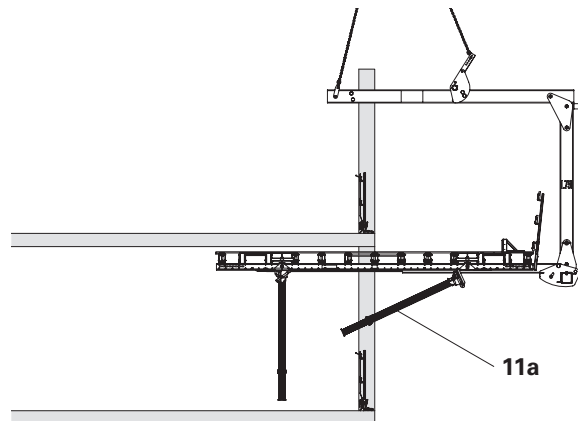

Fig. A10.05
3. Fold up the MULTIPROP MP (11a) and lift out the slab table using the Table Lifting Fork. (Fig. A10.05)